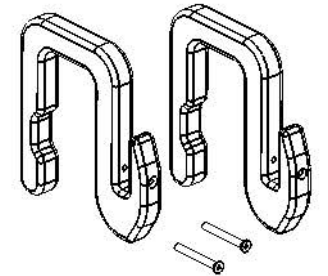

Figure 7
2. Remove 2 outside hooks & 2 screws (B) from packaging
3. Attach hooks in the outside set of cut slots in the main frame (Figure 7)
4. Attach outside bump stops (D)
5. Connect top handle () to middle frame tension () with (2) shaped bolts () (and should be acin to a ds the ope ato)